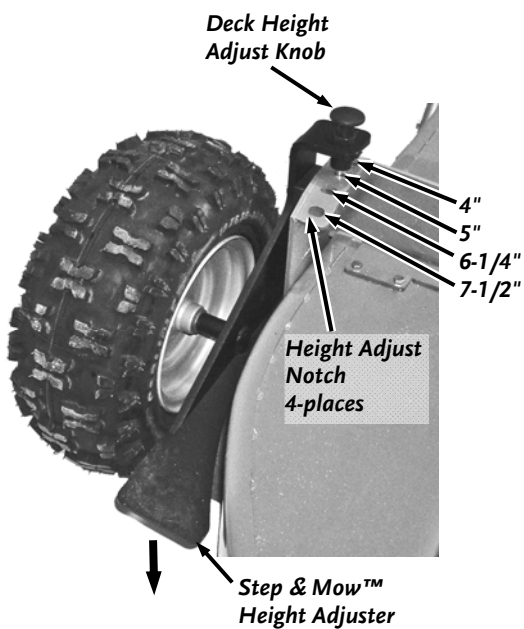

Figure 23
1. To change the cutting height, apply foot pressure to the Step & Mow™ Height Adjuster (**Figure 23**) and at the same time, lift up on the spring loaded Deck Height Adjust Knob and re-position the Knob to the desired height in one of the four Height Adjust Notches on top of the Deck. Repeat this for the opposite side of the Deck.